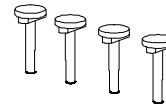

Figure 2-1-2
- RM Attach Pin (RMAP) - Plastic pins inserted through the RM to secure it to the mainboard (four required per Assembly). (Refer to Figure 2-1-2)